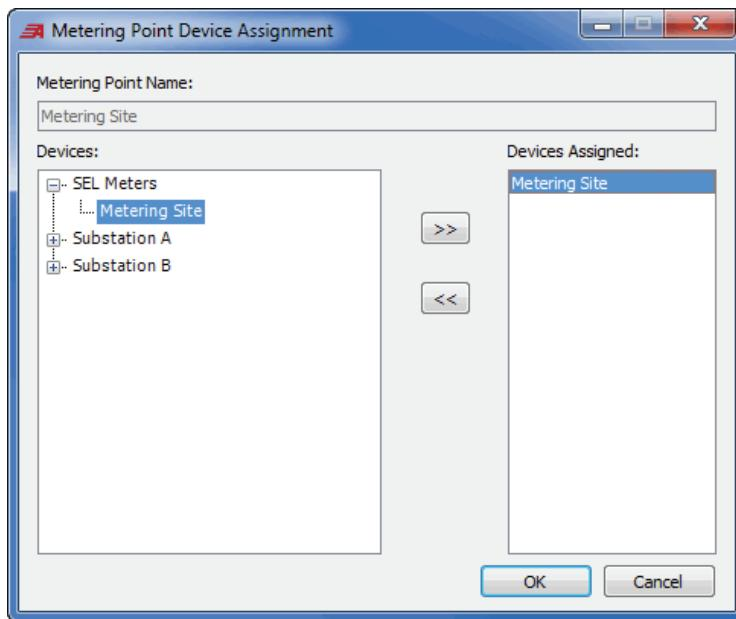

Figure 185 Metering Point Device Assignment Window
- Step 10. Select (+) to expand **SEL Meters** and select **Metering Site**, as shown in *Figure 185*.